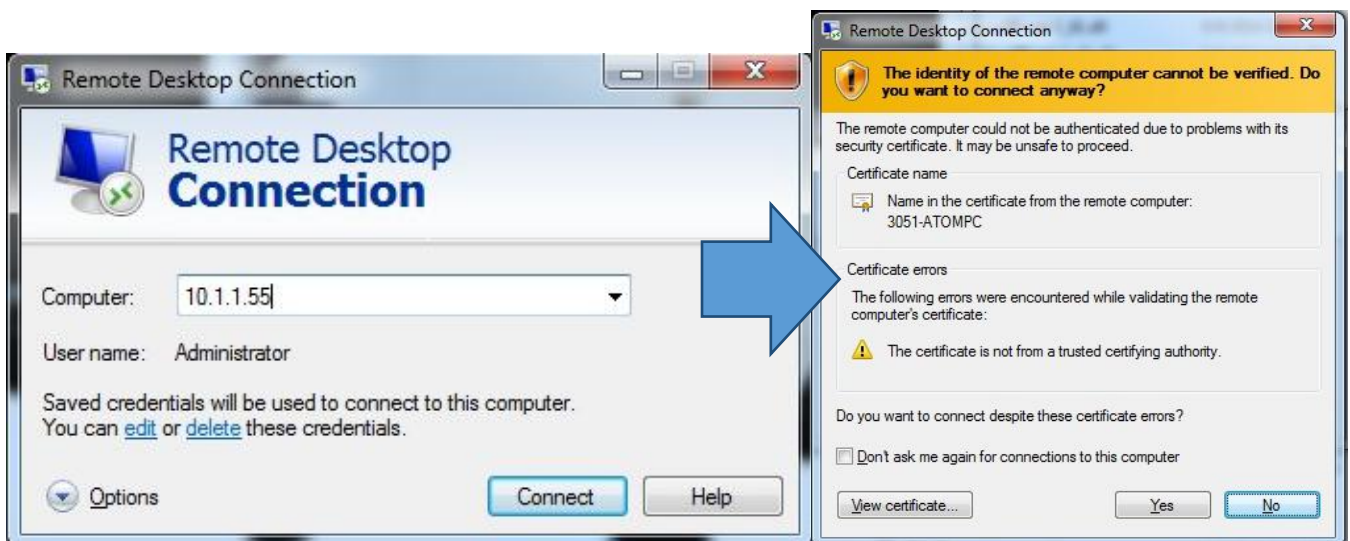

Figure 10 Remote Desktop Connection
5. Return to “System and Security” tab and select “Allow Remote Access” at “System” tab. At the Remote Desktop, select “Allow connection from computers running any version of Remote Desktop (less secure)” and click ok as Figure 10.